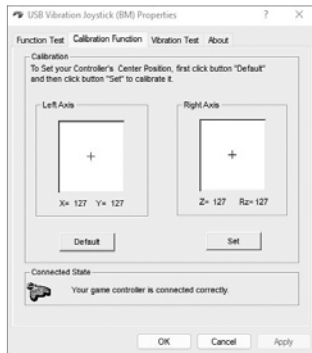

Fig. 10
• In the «Calibration» tab, the steering position can be centered (Fig. 10). To do this, set the steering wheel to the middle position, then press «Default» and «Set». After calibration, you must click «Accept» or «OK» on the bottom line of this window to save the changes.